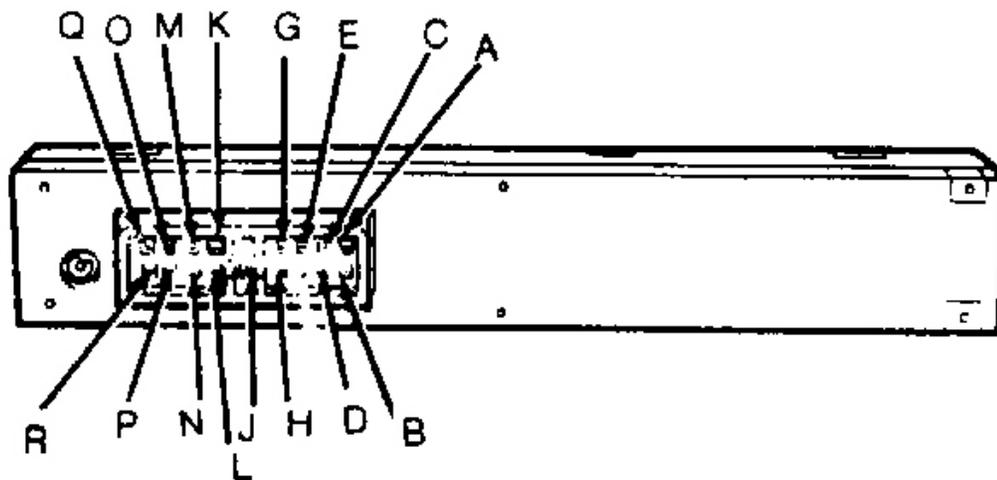

Fig. 9: Testing ANTI-LOCK Warning Light (RX7)
1. Start engine, and observe ANTI-LOCK light. Light should illuminate for a few seconds. If light does not illuminate as described, remove clock and bezel assembly from dashboard. Slide warning and clock unit from instrument panel. Connect terminal "E" to ground. See **Fig. 9** . ANTI-LOCK light should illuminate. If light does not illuminate, check bulb. If bulb is okay, check meter fuse and wiring harness.